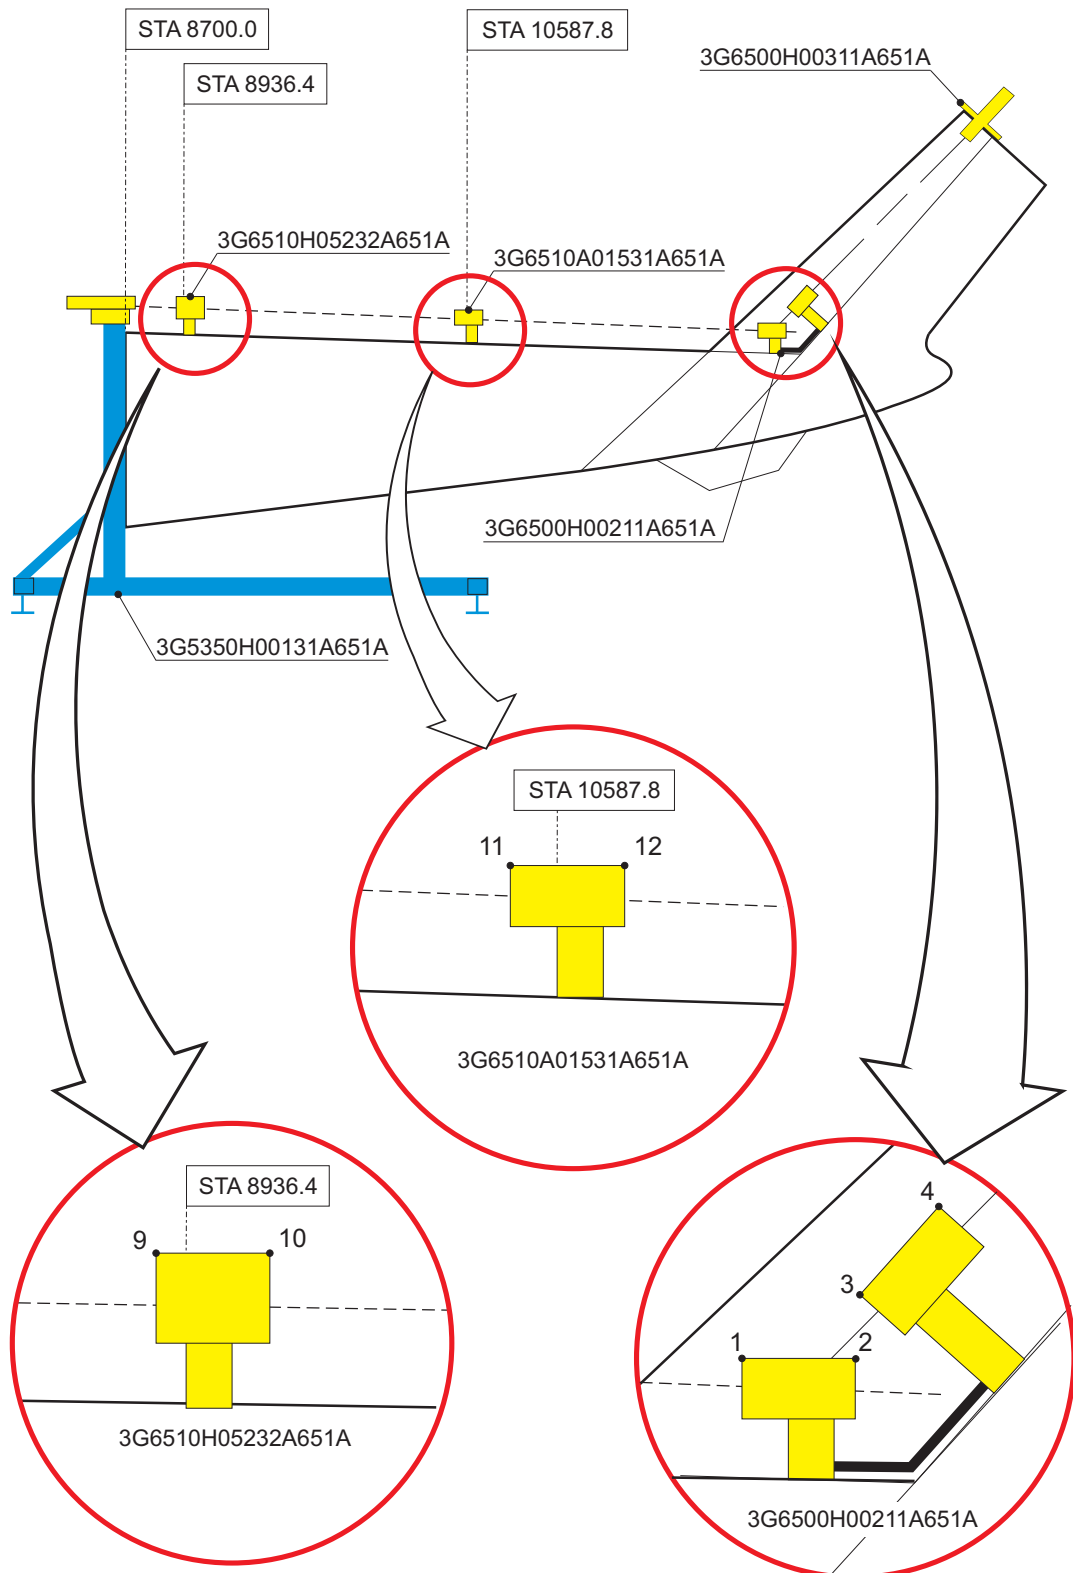

Figure C3 – Tail alignment check
- 3.1 Install the tail module upon the specific sustaining strut P/N 3G5350H00131A651A and fix it by means of special tooling bolts, as shown in Figure C3. Torque the bolts to 23.75-26.25 Nm.
- 3.2.2 Install the target glass (TECO6-148 or equivalent) upon the specific support P/N 3G6500H00211A651A, located in correspondence of the theoretical IGB input (position 1 in Figure C3).
- 3.3.1 Point the optical device (TECO6-147 or equivalent) to the angular glass target located on the IGB input specific support (P/N 3G6500H00211A651A) at a distance of 100 mm backwards with respect to the positional target previously removed (position 2 in Figure C3).
- 3.3.3 The measured value must be in a 0.58 mm diameter (0.29 mm radius) circle with respect to the value previously recorded (position 1 in Figure C3).
- 3.4.2 Install the target glass (TECO6-148 or equivalent) upon the specific support P/N 3G6500H00211A651A, located in correspondence of the theoretical IGB output (position 3 in Figure C3).
- 3.5.1 Point the optical device to the angular glass target located on the IGB output specific support (P/N 3G6500H00211A651A) and fitted in the closest seat with respect to the telescope (position 4 in Figure C3).
- 3.5.3 The measured value must be in a 0.58 mm diameter (0.29 mm radius) circle with respect to the value previously recorded (position 3 in Figure C3).
- 3.6.1 Calculate the theoretical point coordinates multiplying the coordinates of IGB position (position 4 in Figure C3) for 0.068.
- 3.6.4 Check the position of the positional target (forward glass target) (position 9 in Figure C3).
- 3.7.1 Install the angular target glass upon the central bearing adapter P/N 3T6510H05232A651A, 100 mm backwards with respect to the positional glass (position 10 in Figure C3).
- 3.7.3 The measured value must be in a 0.58 mm diameter (0.29 mm radius) circle with respect to the value previously recorded (position 9 in Figure C3).
- 3.8.1 Obtain the theoretical point coordinates multiplying the coordinates of IGB position (position 11 in Figure C3) for 0.543.
- 3.8.4 Target the positional glass (forward glass target) adopting the telescope (position 11 in Figure C3).
- 3.9.1 Install the angular target glass upon the central bearing adapter P/N 3G6510A01531A651A, 100 mm backwards with respect to the positional glass (position 11 in Figure C3).
- 3.9.3 The measured value must be in a 1.7 mm diameter (0.85 mm radius) circle with respect to the value previously recorded (position 11 in Figure C3).